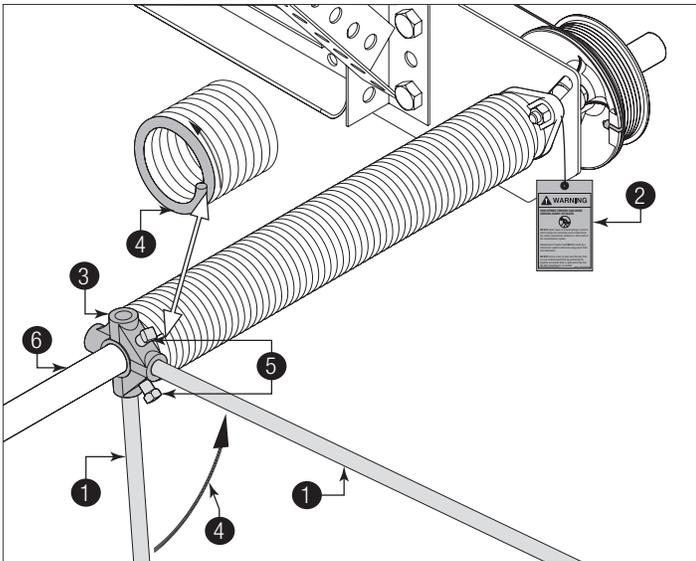

Figure 68
PRIOR TO WINDING THE SPRING, ENSURE YOU'RE WINDING IN THE PROPER DIRECTION AS SHOWN IN FIGURE 68. OTHERWISE THE SPRING FITTING MAY RELEASE FROM SPRING AND RESULT IN SEVERE OR FATAL INJURY.
26b. To adjust spring tension, fully close door. Apply locking pliers to track above third track roller. Place locking pliers on torsion shaft, as shown Figure 68. Insert a winding rod ① into the winding cone. Push upward on the winding rod slightly while carefully loosening the set screws ② in the winding cone ③.